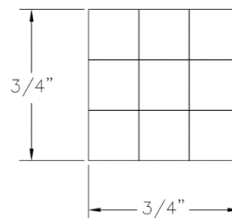

Figure 6
11. The bridge shall be constructed of members with a width and height not to exceed 0.635 cm (1/4 inch). Teams may attach member to one another to create a "built-up" member. Maximum built-up are 3/4", excluding the roadway width. The members MUST be made out of Balsa wood not Basswood, be sure to check your material. See Figure 6